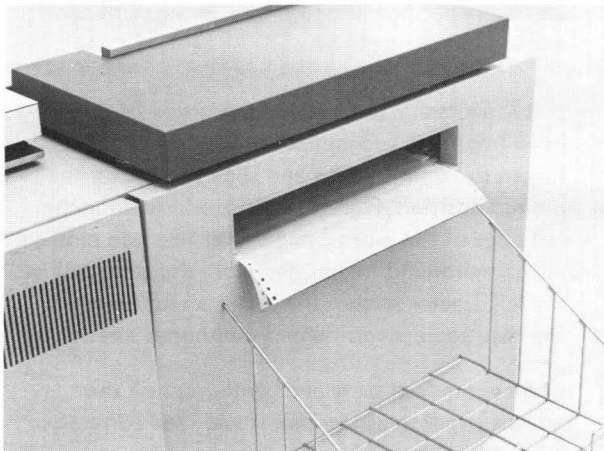

Figure 26. Paper Fed Through Rear Panel Door Feed Slot.
12. As the panel door is closed thread any excess journal paper through the feed slot in the back panel (see Figure 26).